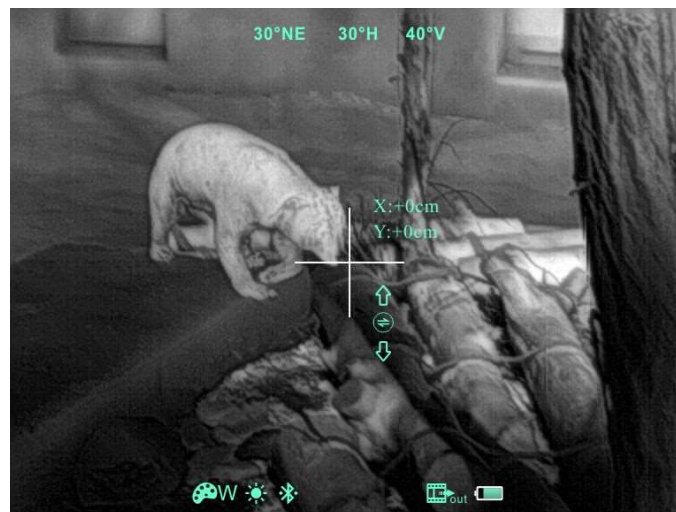

Figure 6-4 Image calibration interface
**Step 1:** In normal display mode, press the **M (13)** button and **C (14)** button for 3s at the same time to enter the image calibration interface, as shown in figure 6-4.
**Step 2:** Pressing **M (13)** button to switch the orientation of X-axis ( left-right ) and Y-axis (up-down);
**Step 3:** Short press **Power (12)** button or **C (14)** button to change the position of screen and long pressing to start quick shift.
**Step 4:** After completing calibration, long press **M (13)** button to save and exit the calibration interface.